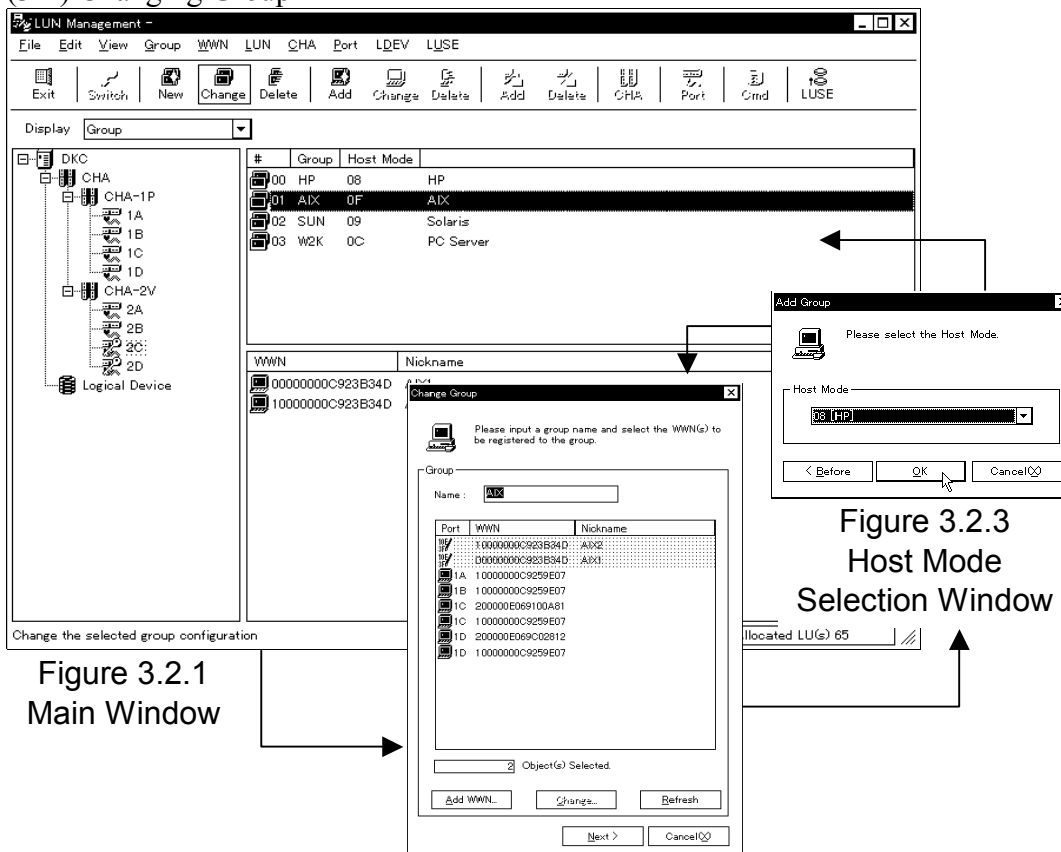

Figure 3.2.2
- ③ Since the Change Group window (Figure 3.2.2) is displayed, change the group name and select (CL) the [Next] button.
In case of changing the group against the port of the Security Switch off, the Change Group window (Figure 3.2.2) is not displayed.